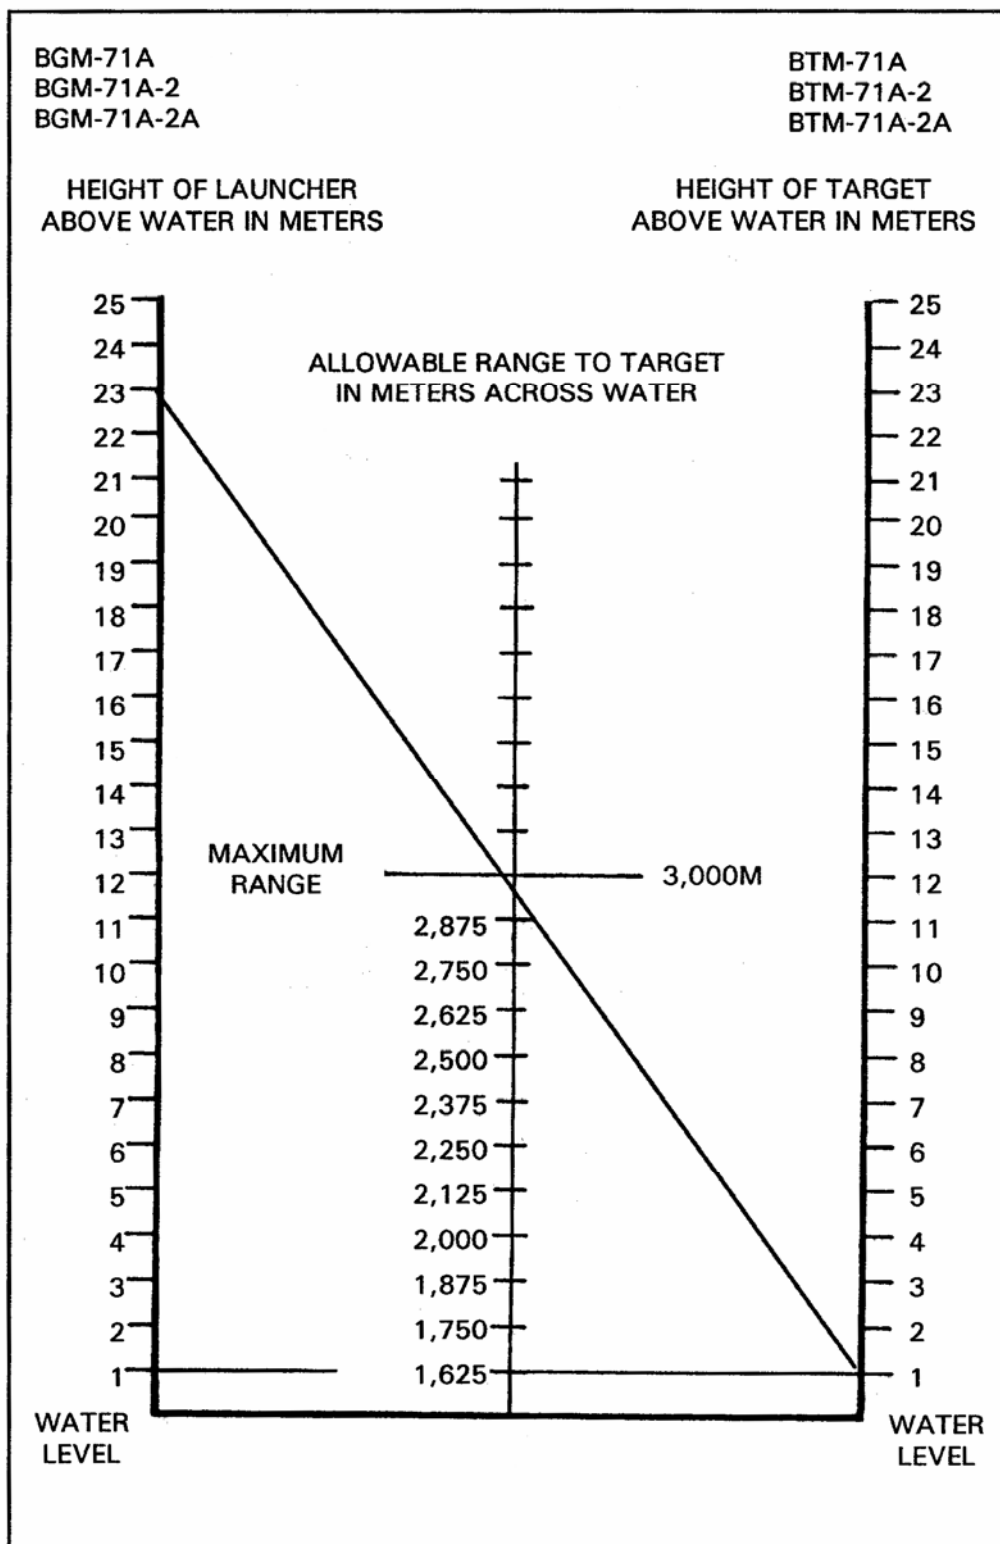
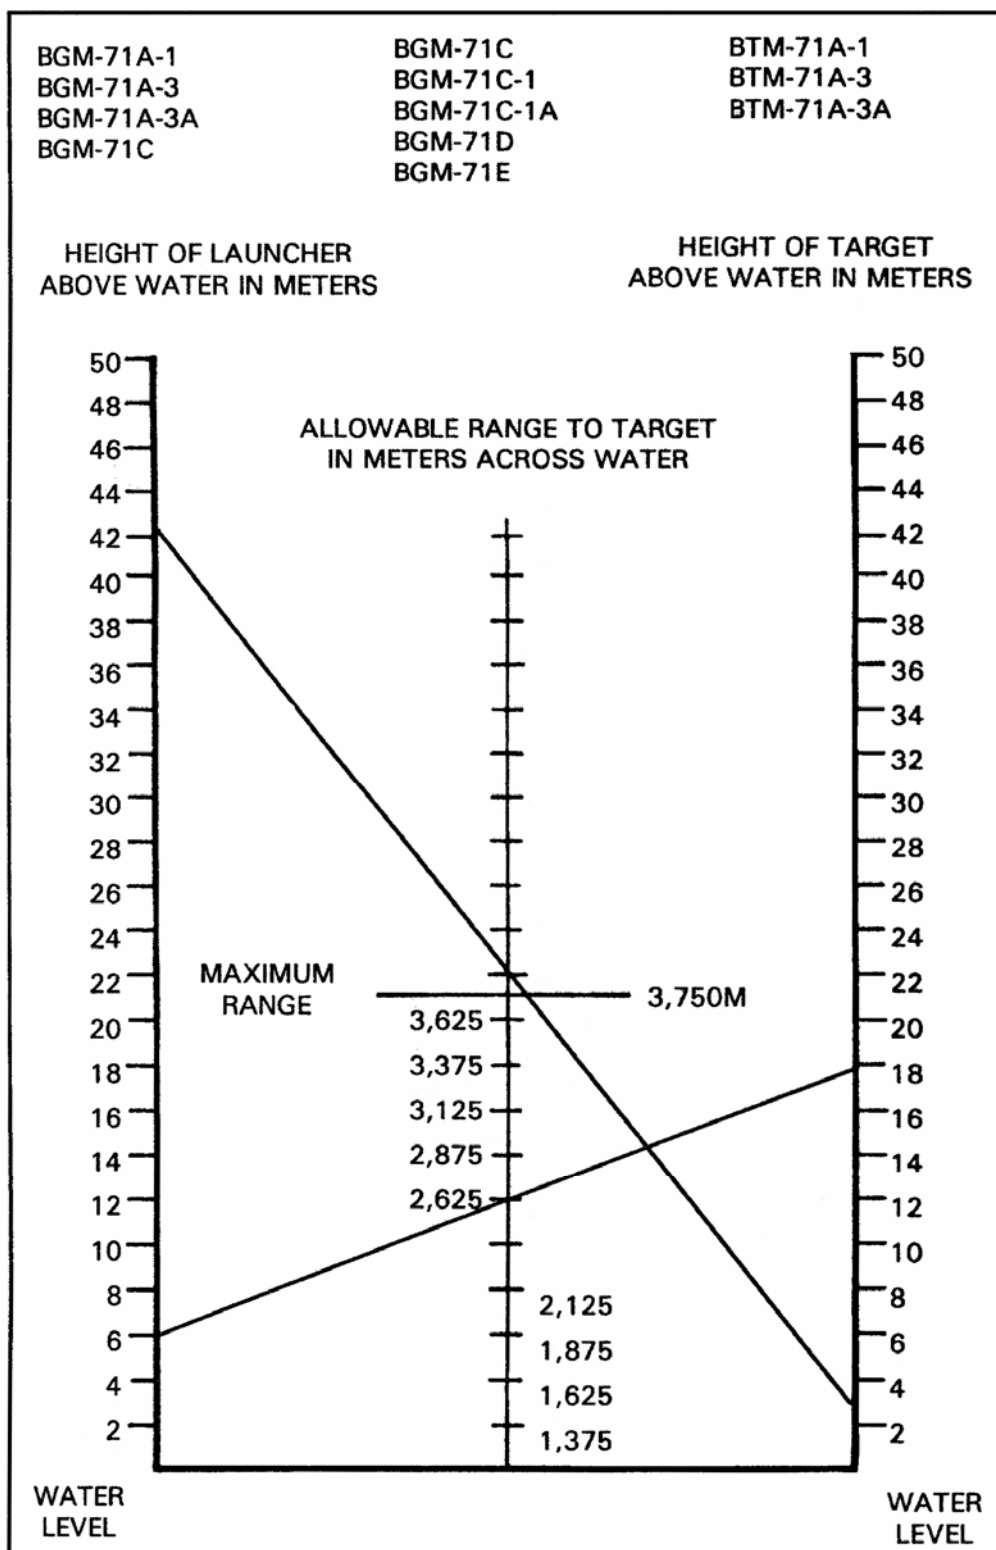

Figure 1A.
Figure 1B.
(1) To determine how much water you can fire across, you need to know, in meters (a meter is about 3.3 feet)--
(2) The type of TOW missile determines whether you use the chart shown in Figure 1a or in Figure 1b. Both charts work the same, so directions apply to both.
- TOW 1--Use the chart in Figure 1A.
- TOW 2--Use the chart in Figure 1B.
(3) Find the number on the left side of the chart that corresponds to the height of the launcher above water.
(4) Place the end of a straightedge on the tick mark beside that number.
(5) Find the number on the right side of the chart that corresponds to the height of the target above water.
(6) Place the other end of the straightedge on the tick mark beside that number.
- (7) Read the number where the straightedge crosses the centerline. (The number represents how many meters of water you can fire the TOW over.)
- (8) If the straightedge crosses between two numbers, you may have to estimate.